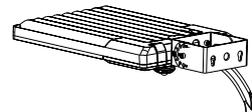

Figure 6
Step 2: Install the bracket on the fixture. (Figure 6)